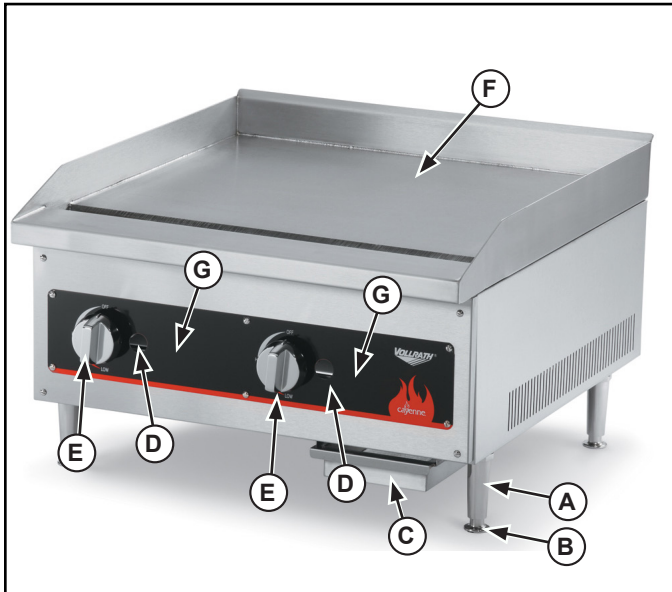

Figure 1. Features and Controls.
5. Install the four (4) legs (A) and feet (B) onto the equipment. See Figure 1.
2. Turn off all gas control knobs (E). See Figure 1.
4. The pilot burner must be lit at the end of the tube. Hold an ignition source through the pilot light hole (D) in the front panel at the pilot tube. When the flame is established remove ignition source.
1. Hold the leg (A) and rotate the adjustable feet (B) so the equipment is level. See Figure 1.
2. Check the drip tray (C) frequently.
3. To ignite the burners, depress and turn the gas control knob (E) to 'High' position.